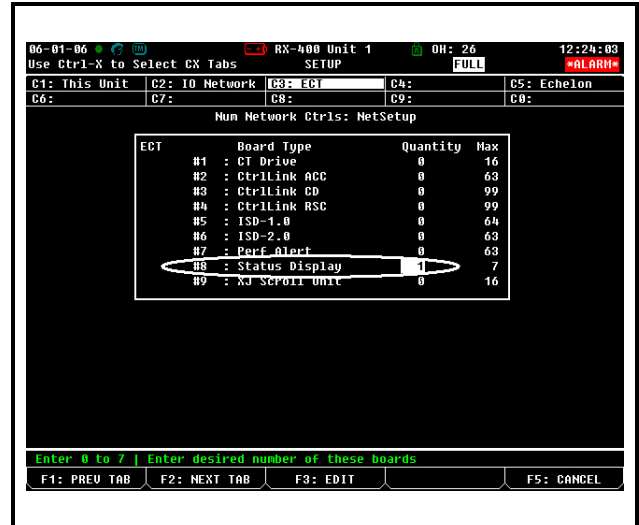

Figure 3-2 - Connected I/O Screen Setup (E2 firmware versions 2.81 and above)
- If using an E2 controller with firmware version 2.81 or above, press the **F2: NEXT TAB** to go to the **ECT** tab, cursor down to **Status Display**, and then enter the desired number of devices (*Figure 3-2*).